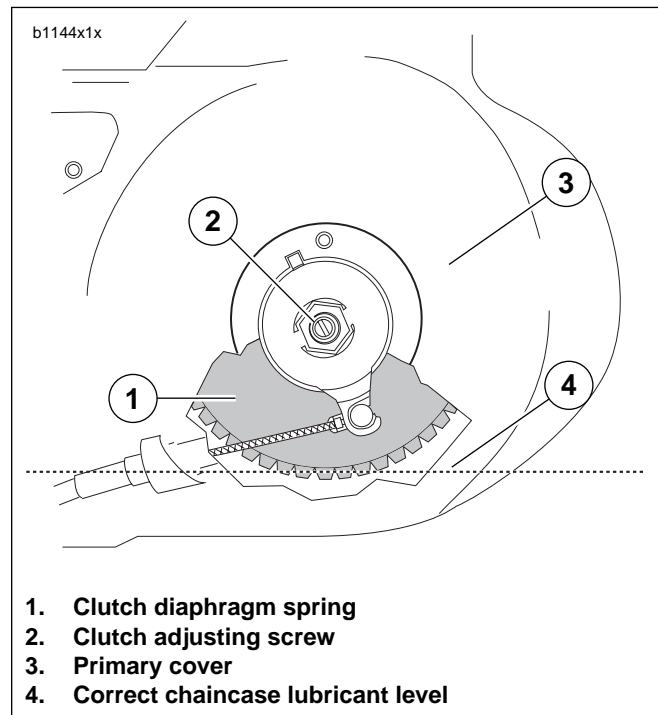

Figure 1-27. Fluid Level
6. See Figure 1-27. Add FORMULA+ TRANSMISSION AND PRIMARY CHAINCASE LUBRICANT (Part No. 99851-05) as required until fluid level is even with bottom of clutch diaphragm spring (2).